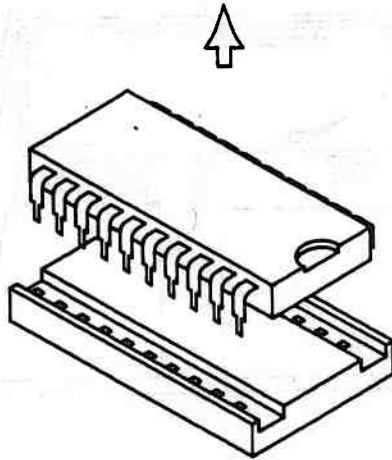

Figure 3-48. PAL47 Chip
12. Locate the PAL47 chip (Figure 3-48). It is on the bottom row, fifth column from the left, at coordinates 5G. Gently remove the chip using a screwdriver or extraction tool.